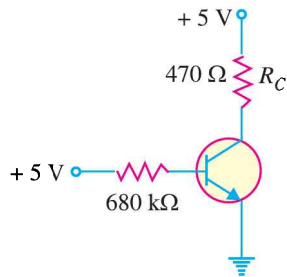

Fig. 8.71
10. Draw the d.c. load line for Fig. 8.71.
11. If the collector resistance R_C in Fig. 8.71 is increased to $1\ \text{k}\Omega$, what happens to the d.c. load line?